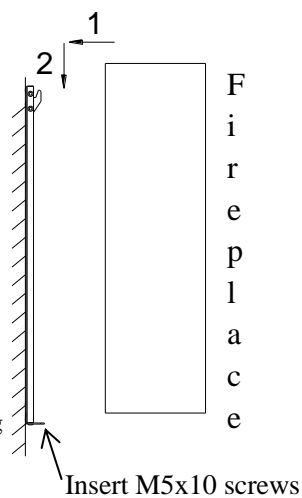

Fig. 6
- Hang the fireplace on the hooks at top and push the fireplace into the bracket and then insert the short M5x10 screws into the bottom support tabs. (Fig. 6)